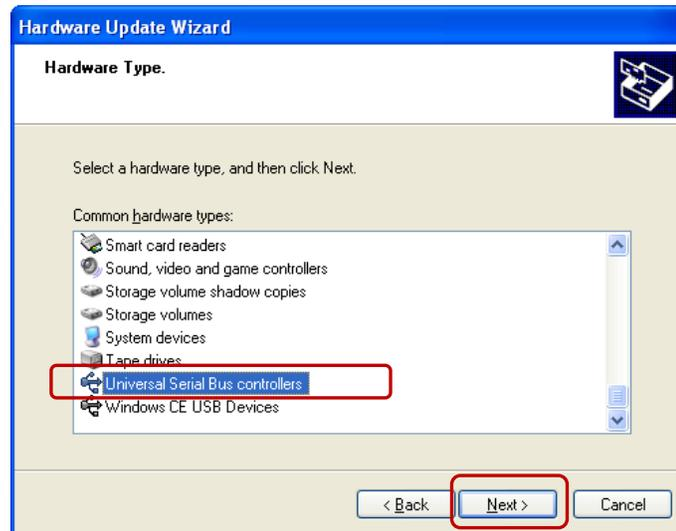

Fig. 20
15. Select Universal Serial Bus controllers and click **Next** (As shown in Figure 20).